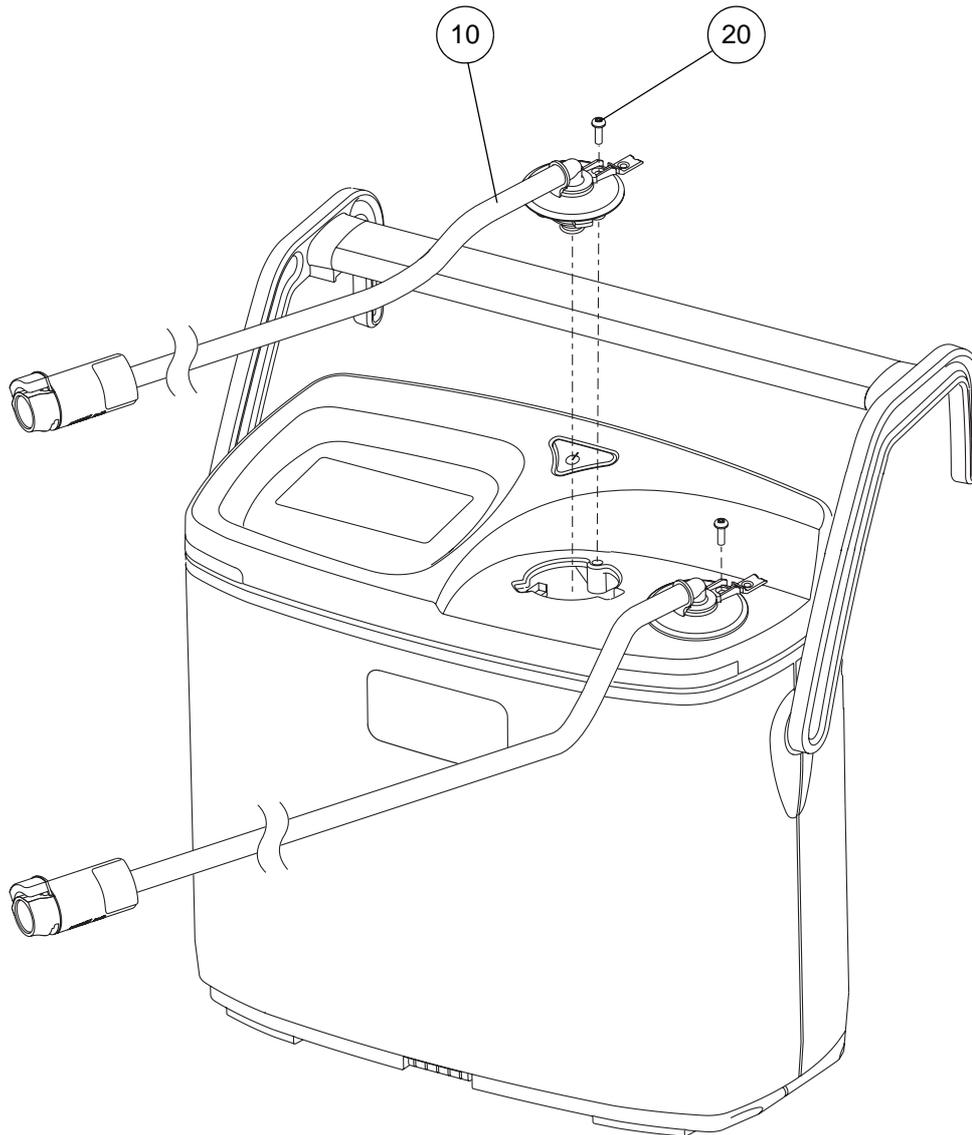

Figure 34 - Replacing the Hose Sets
The hose set assembly (Fig 34, Item 10) comprises a length of tube with a pump connector at one end and a garment connector at the other.
- 8.2 Remove the screw (Fig 34, Item 20), and retain for future use.
- 9.2 Put the hose set assembly (Fig 34, Item 10) by the pump, with the elbow retaining cover adjacent to the case cutout in the top of the pump.
9.7 When the elbow retaining cover is in the correct position, install the screw (Fig 34, Item 20) and tighten it to secure the hose set assembly to the pump.